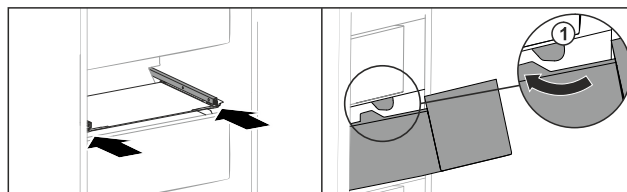

Fig. 168
- Guide drawer around the stoppers Fig. 168 (1).